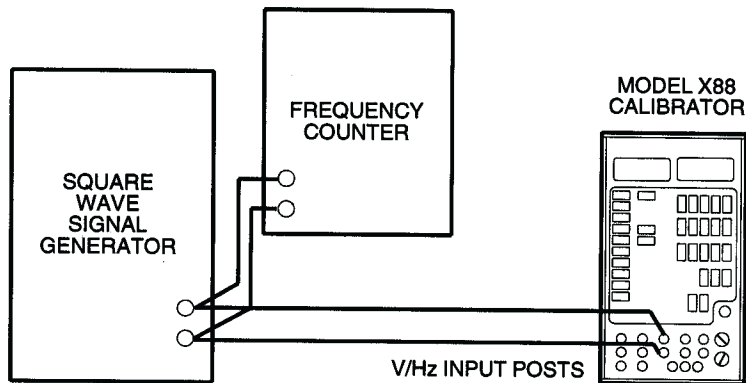

Figure 4-4: Frequency Input Calibration.
- a) Connect the Model X88, signal generator and frequency counter as shown in Figure 4-4.